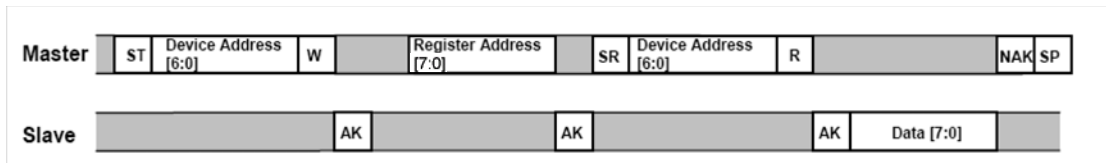

Figure 7. Single Byte Read - The Master is reading one address from the MMA7455L
The MMA7455L has a 10-bit ADC that can sample, convert and return sensor data on request. The transmission of an 8-bit command begins on the falling edge of SCL. After the eight clock cycles are used to send the command, note that the data returned is sent with the MSB first once the data is received. Figure 7 shows the timing diagram for the accelerometer 8-bit I2C read operation. The Master (or MCU) transmits a start condition (ST) to the MMA7455L, slave address (\$1D), with the R/W bit set to "0" for a write, and the MMA7455L sends an acknowledgement. Then the Master (or MCU) transmits the 8-bit address of the register to read and the MMA7455L sends an acknowledgement. The Master (or MCU) transmits a repeated start condition (SR) and then addresses the MMA7455L (\$1D) with the R/W bit set to "1" for a read from the previously selected register. The Slave then acknowledges and transmits the data from the requested register. The Master does not acknowledge (NAK) it received the transmitted data, but transmits a stop condition to end the data transfer.